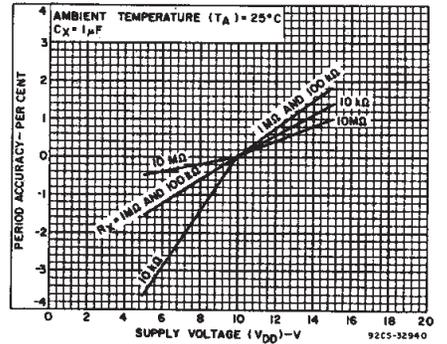

Fig. 11—Typical astable oscillator or Q, Q̄ period accuracy vs. supply voltage.
B. Variations Due to V_{DD} and Temperature Changes — In addition to variations from unit to unit, the astable period varies with V_{DD} and temperature. Typical variations are presented in graphical form in Figs. 11 to 16 with 10V as reference for voltage variations curves and 25°C as reference for temperature variations curves.